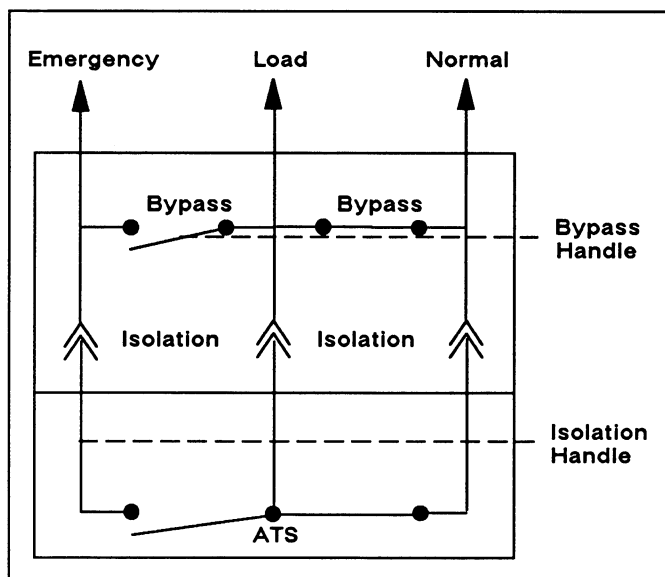

Figure 24. Closed Position.
7. Close the isolating contacts as follows (see Figure 24.).